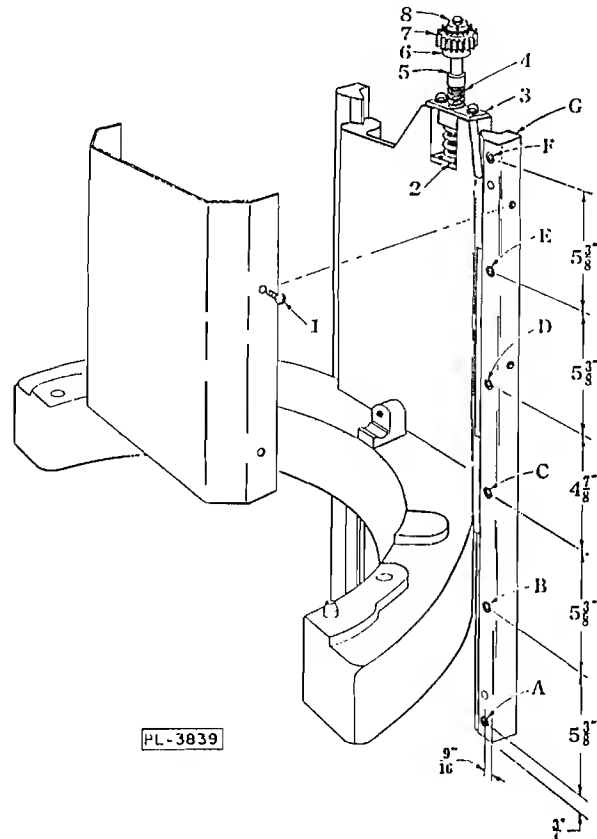

Fig. 3
To remove the bowl support, it is necessary to take off the right-hand slideway (G, Fig. 3). Proceed as follows:
- (1) Remove the apron. It is held by four screws (1, Fig. 3).
- (2) Break the paint covering the heads of the three lower screws A, B and C.
- (3) Run the bowl support all the way down and remove the bowl lift nut retainer (3, Fig. 3). Then run the nut back up the screw.
- (4) Pry the spring seat (2, Fig. 3) up off the pins.
- (5) Take out the six socket-head screws A, B, C, D, E & F and remove the right-hand slideway.
End play adjustment in the bowl lift screw (4, Fig. 3) is provided by the lock nut (8, Fig. 3). Upward thrust on the lift screw is taken by a shoulder (5, Fig. 3) which bears against the transmission case; downward thrust is taken by the permanently-sealed ball bearing (6, Fig. 3). A minimum of .005" end play should be allowed.